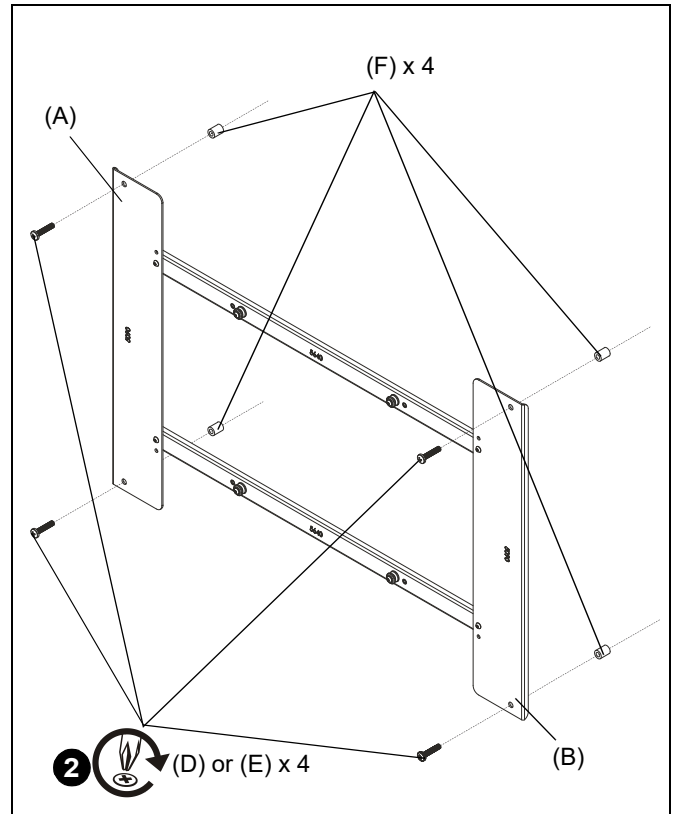

Figure 2
2. Attach interface brackets (A and B) to back of display using four M6 x 40mm Phillips cap head screws (D) or four M6 x 45mm Phillips cap head screws (E) and four M18 x M8.3 x M20 spacers (F). Use correct length depending on display hole depth. (See Figure 2)